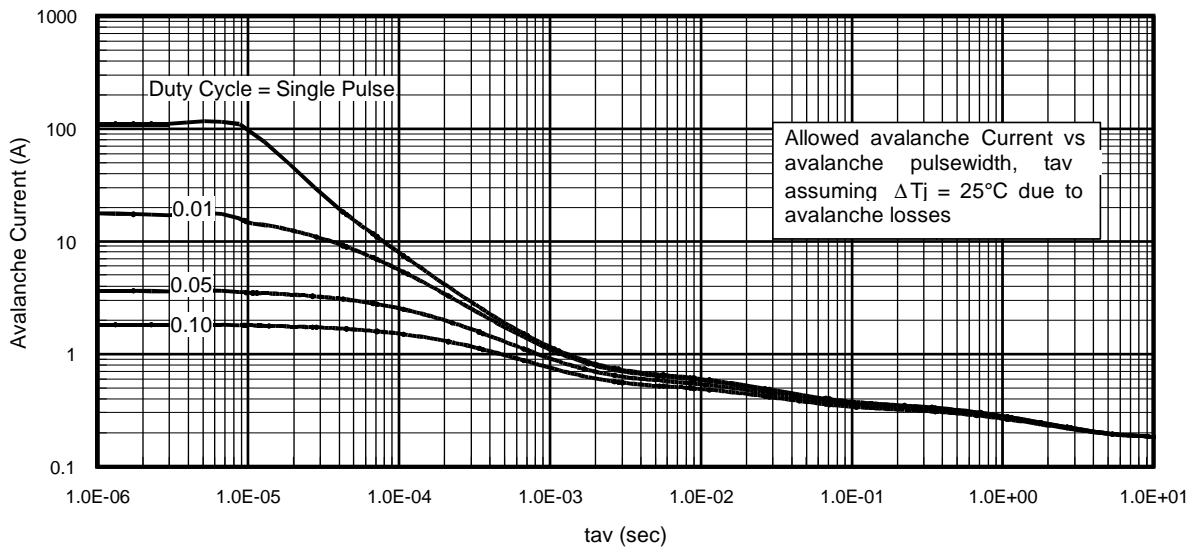

Fig 14. Typical Avalanche Current Vs. Pulsewidth
Notes on Repetitive Avalanche Curves , Figures 14, 15:
7. ΔT = Allowable rise in junction temperature, not to exceed T_{jmax} (assumed as 25°C in Figure 14, 15).
- ① Repetitive rating; pulse width limited by max. junction temperature.
- ② Starting $T_J = 25^\circ\text{C}$, $L = 1.5\text{mH}$, $R_G = 25\Omega$, $I_{AS} = 13\text{A}$.
- ③ Pulse width $\leq 400\mu\text{s}$; duty cycle $\leq 2\%$.
- ④ R_θ is measured at T_J of approximately 90°C .
- ⑤ Limited by T_{jmax} . See Figs. 14, 15, 17a, 17b for repetitive avalanche information.